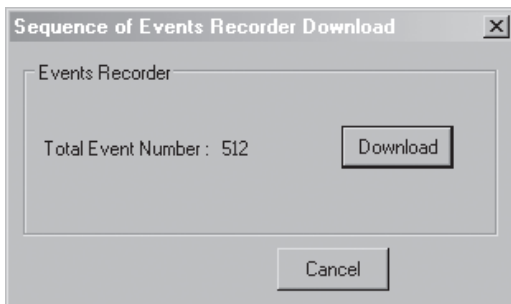

Figure 3-32 Sequence of Events Recorder Download Screen
1. From the ISScom® Main Screen menu select **System/Sequence of Events Recorder/Download**. ISScom will display the Sequence of Events Recorder Download screen (Figure 3-32) and indicate the number of Sequence of Events Recorder Events available for download.